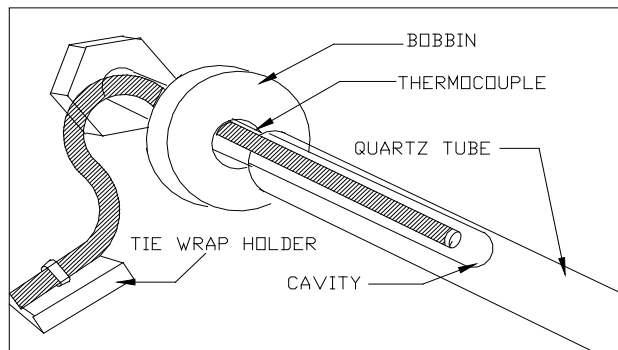

Figure 6-33. Thermocouple Installed
14. The thermocouple should now be properly seated in the cavity of the quartz tube. Refer to Figure 6-33.